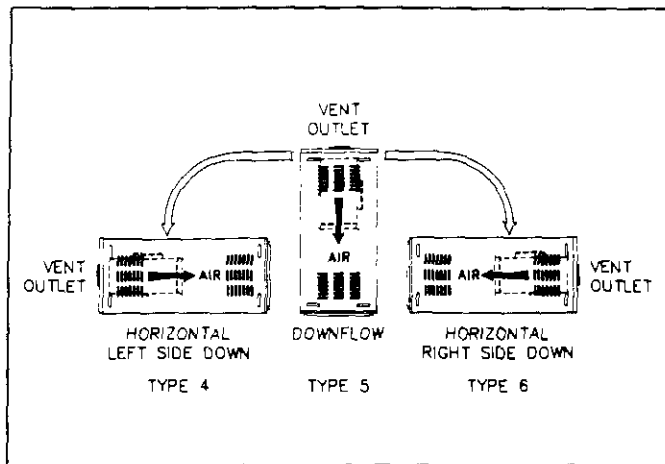

FIGURE 2
2. You may convert furnace quickly and easily for as-shipped configuration. After conversion, you can install it as a downflow or horizontal furnace in one of three positions shown in Figure 2.
2. Furnace as-shipped position may be converted to a downflow furnace by following instructions in B. below. Once conversion is complete, furnace may be installed as a downflow furnace. Furnace may also then be installed as a horizontal on its right or left side. See Figure 2.